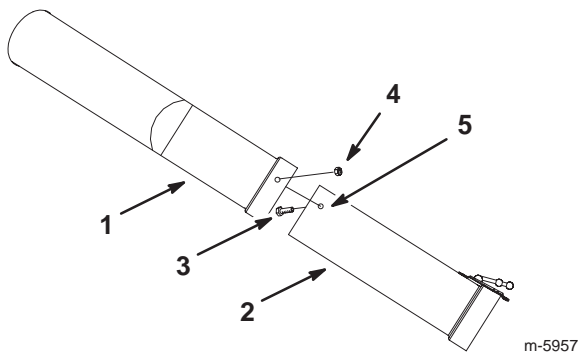

Figure 16
8. Using the upper tube as a template, mark the hole locations on the middle tube (Fig. 16).
10. Drill 3 holes, 9/32 in. diameter, into the middle tube (Fig. 16).
11. Install the middle and upper tube with 3 carriage bolts (1/4 x 3/4 in.) and 3 flange nuts (1/4 in.) (Fig. 16).